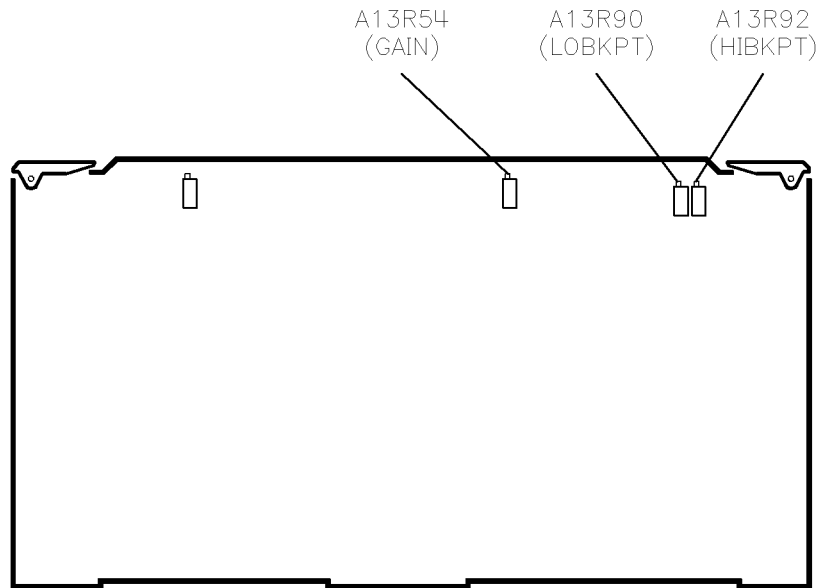

Figure 3-9. YO Gain and Linearity Adjustment Locations
4. Adjust A13R54 (see Figure 3-9) to center the “needle” on the display.
6. Adjust A13R90 (see Figure 3-9) to center the “needle” on the display.
8. Adjust A13R92 (see Figure 3-9) to center the “needle” on the display.